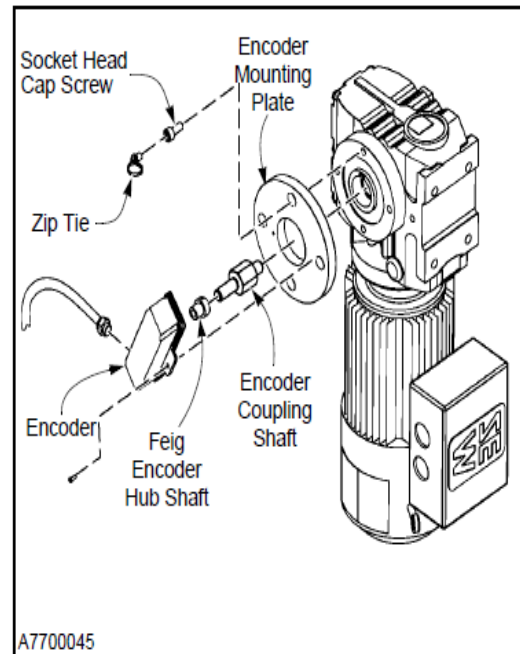

Figure 24
5. Install plastic zip tie into socket head cap screw and secure the encoder cable. (See figure 24)